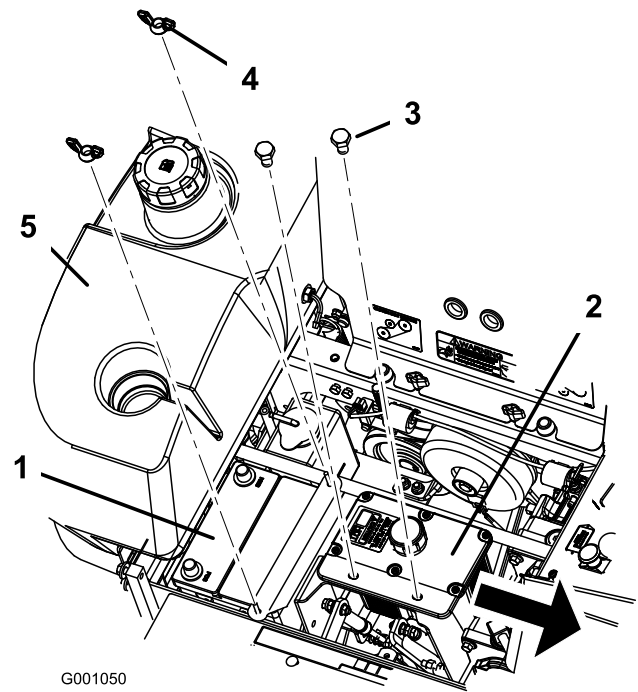

Figure 48
6. Remove both wing nuts (1/4 inch) securing the battery clamp (Figure 48).
7. Remove the two bolts holding the hydraulic tank in place (Figure 48).
6. Secure battery with J-bolts, hold down clamp and 2 washers (1/4 inch), and 2 wing nuts (1/4 inch) (Figure 48).